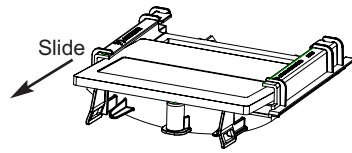

Figure 6
2. Pull up on bottom edge of filter and slide out of the bottom of the filter holder (Fig. 6)